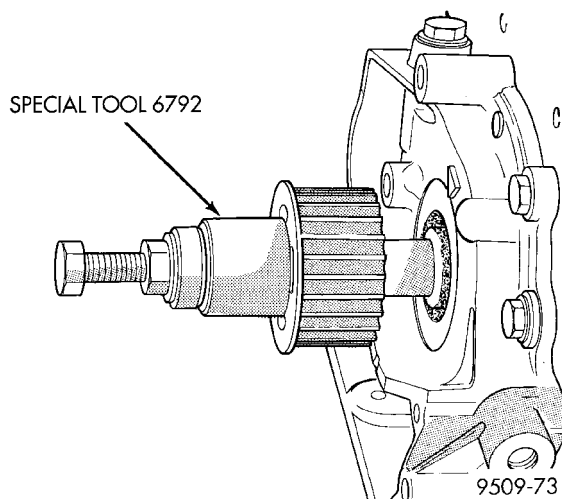

Fig. 60 Crankshaft Sprocket—Installation
(3) Install crankshaft sprocket (Fig. 60). Using Special Tool 6792.